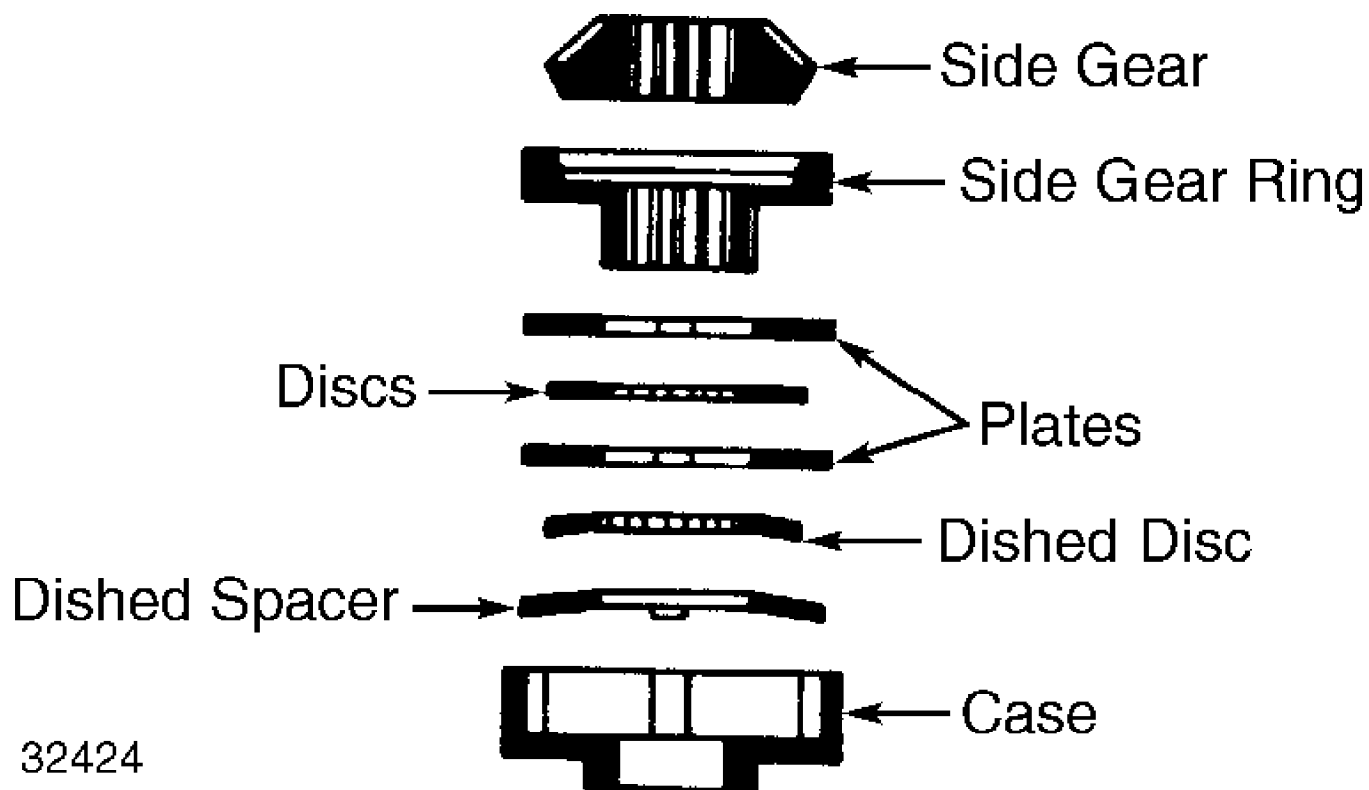

Fig. 4: Power-Lok Differential Clutch Pack Assembly
3) Install side gear on pinions. Position side gear ring on side gear and pinions. Assemble clutch pack on side gear. See Fig. 4. Align clutch plate lugs and install all parts in case. Position cover half of case over assembly. Align case marks made during disassembly.